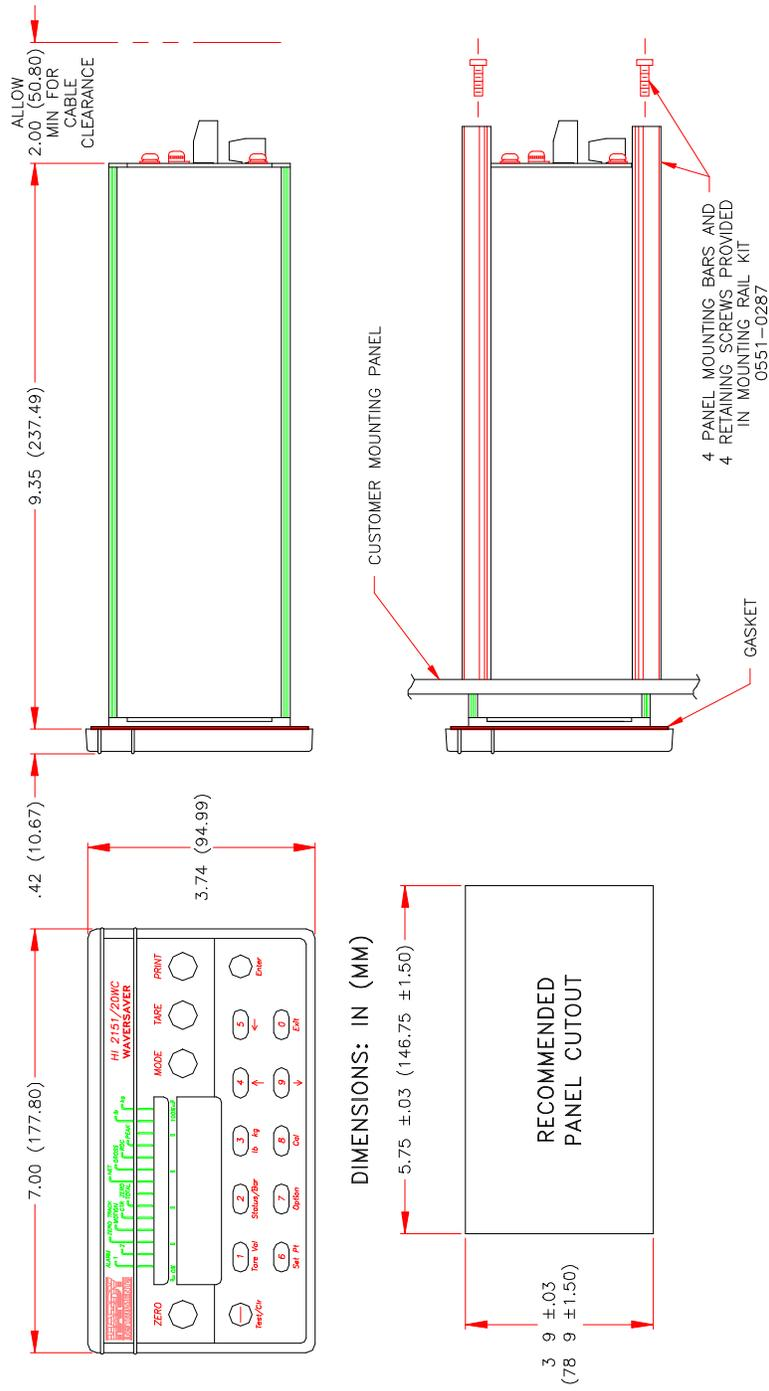

Figure 2-1. HI 2151/20WC Installation Details.
The unit fits a 3.09 inches by 5.75 inches panel cutout. Refer to Figure 2-1, HI 2151/20WC Installation Details for cutout dimensions. Mounting is through the cutout and the unit is held in place by four mounting bars and retaining screws, which are installed from the rear of the mounting panel.
- c. From inside the mounting panel enclosure, slide a mounting bar along each slotted corner of the unit's case until it contacts the back of the mounting panel. See Figure 2-1 HI 2151/20WC Installation Details. Insert the four furnished #6 Phillips screws into the threaded ends of the four slotted corners.